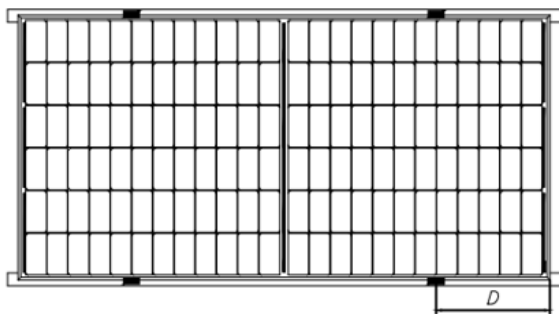

Fig.3 Rails overlapping the long-side frame
When PV modules are installed, each PV module must be fixed with at least 4 presses, as shown in Figures 3、4、5、6.
⑩ For the mounting shown in Figure 3, the overlap between the C surface of the module and the rail should be  $\geq 25\text{mm}$ . Astronergy's limited warranty will be void if improper clamps or improper installation is used.